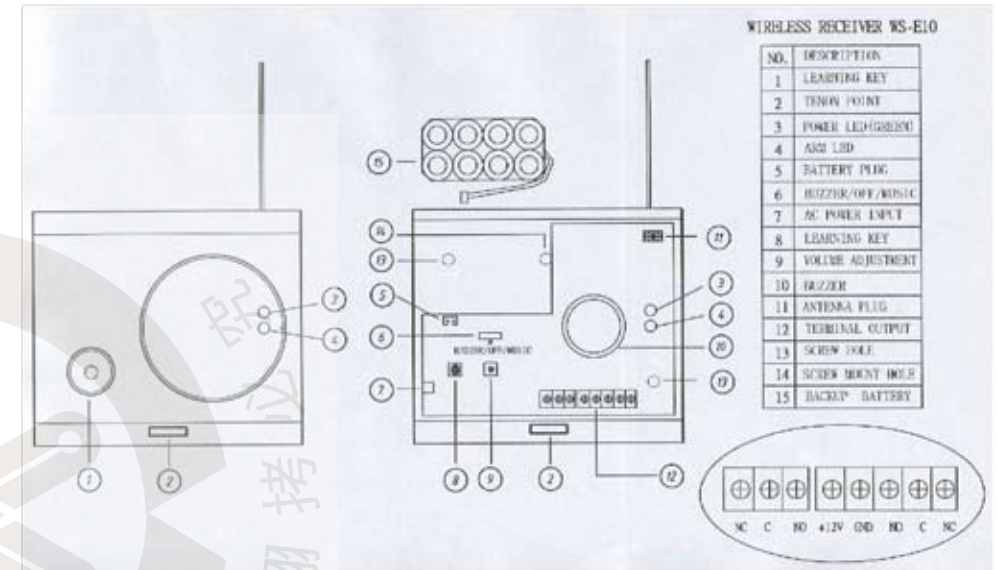

Figure 1
Please fix the antenna in ⑪ (please refer to the figure 1) with Philips head screwdriver.